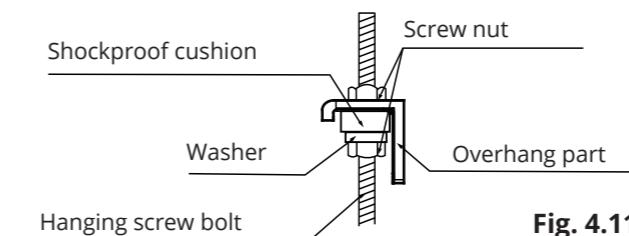

Fig. 4.11
10. Mount the indoor unit onto the hanging screw bolts with a block. Position the indoor unit on a flat level by using a level to prevent leaks. (See Fig. 4.11).